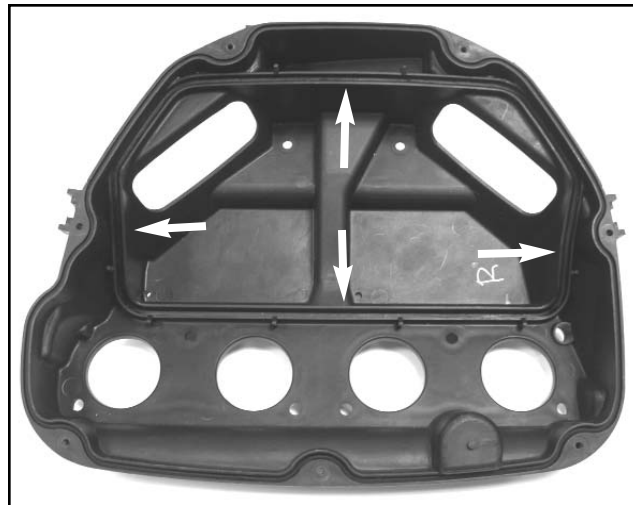

Fig. 1
- 2) Remove the air filter sealing o-ring from the air box base. (Fig. 1)
- 3) Apply a small amount of the provided K&N Sealing Grease in the air filter sealing groove. (Fig. 1)